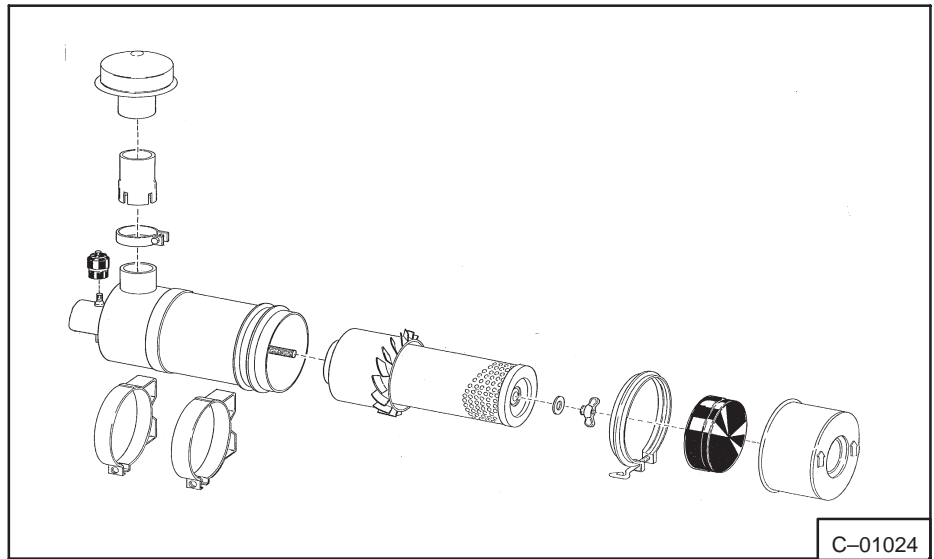

Fig. 1-7 Air Cleaner Assembly
3. Remove old element (Fig. 1-7).
4. Install new element (Fig. 1-7).